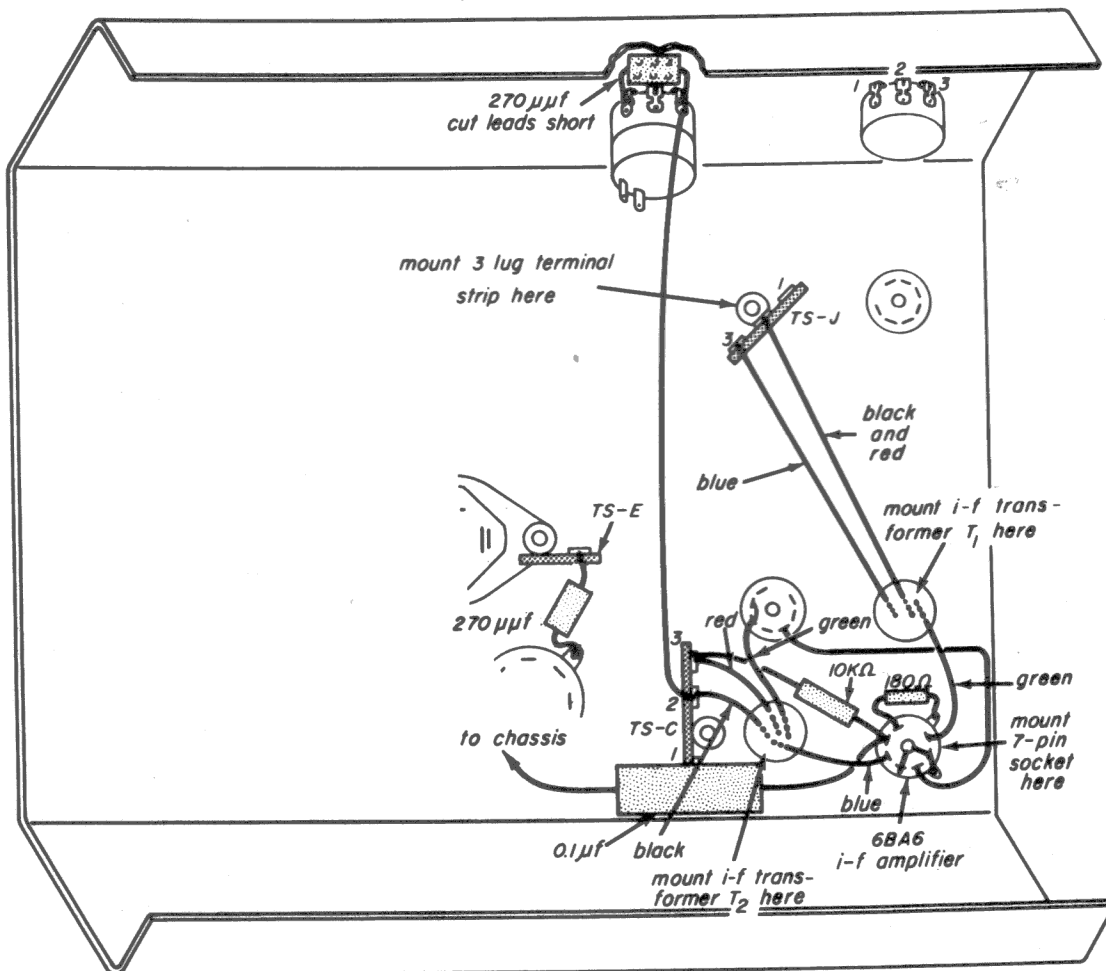
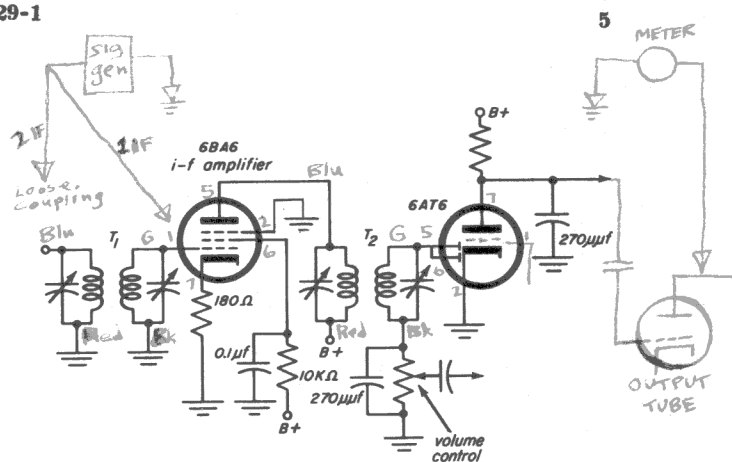

Fig. 29-1
Fig. 29-2
Step 5. Remove the 2-lug terminal strip TS-J and put a 3-lug terminal strip in its place, as shown in Fig. 29-1. This new terminal strip will still be referred to as TS-J. Make sure it is clearly labelled on your chassis. Rotate it slightly clockwise as shown before tightening it down.
The circuit that you have wired is shown in Fig. 29-2. Compare your chassis wiring with this schematic and the wiring diagram of Fig. 29-1, before you proceed.
Step 5. With the meter set to the 5 VDC range, measure the voltage at the cathode of the tube and enter it in the table. Compare your voltages with those given. If there is a discrepancy of much more than 20%, locate the trouble by checking your chassis against the wiring diagram of Fig. 29-1 and the schematic diagram of Fig. 29-2 before you proceed.